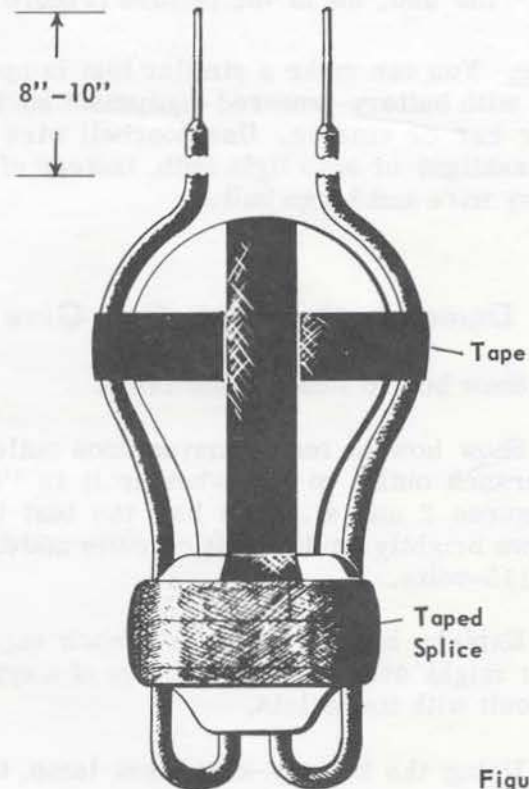

Figure 2
7. Wrap at least two layers of tape around widest part of bulb and over the end, as in the picture (Figure 2).